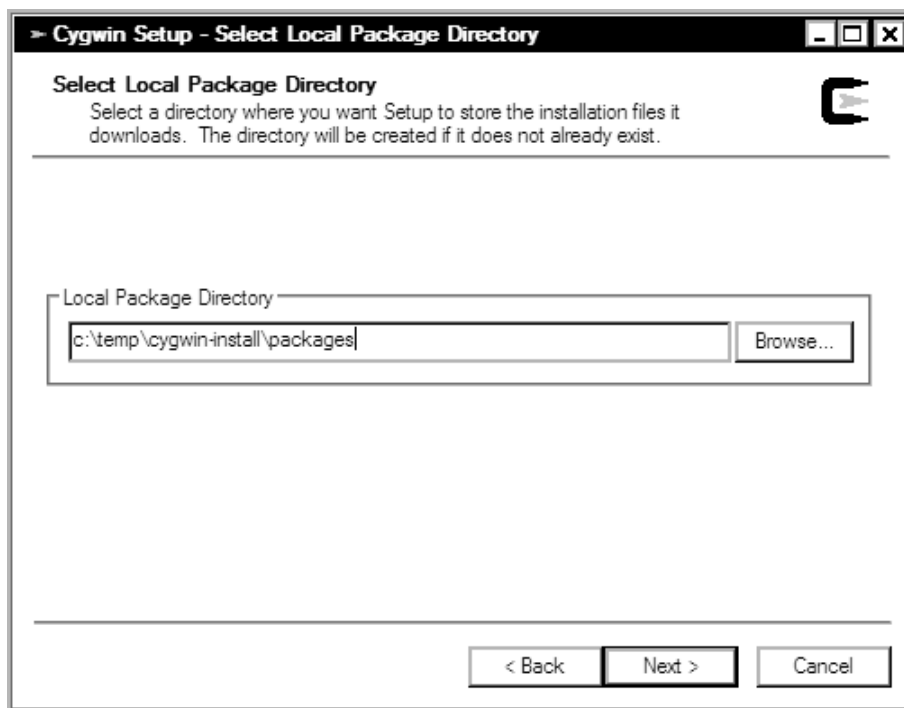

Figure 2-3. *Cygwin installation: selecting a directory in which to store the packages after download*
6. Select a local package directory (see Figure 2-3). This is where the packages are stored on your system after download. The default path is complex; change it to something easier to remember.